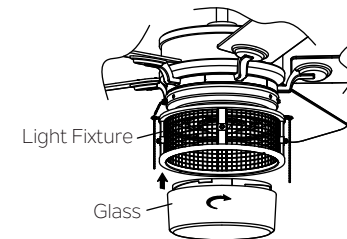

Fig. 4
Step 5. Secure the glass to light fixture by twisting in a clockwise direction. Do not over-tighten. (Fig. 4)